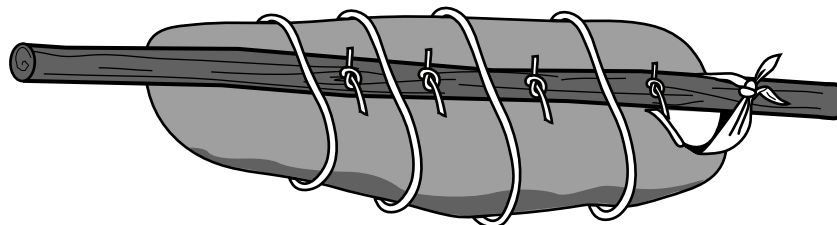

Figure 8-5. Pole Carry.
- The pole is placed along the casualty's length and secured using square knots with two overhands with the ends of the sling ropes. The square knots should be so tight that the overhands are tied onto themselves (see Figure 8-5).